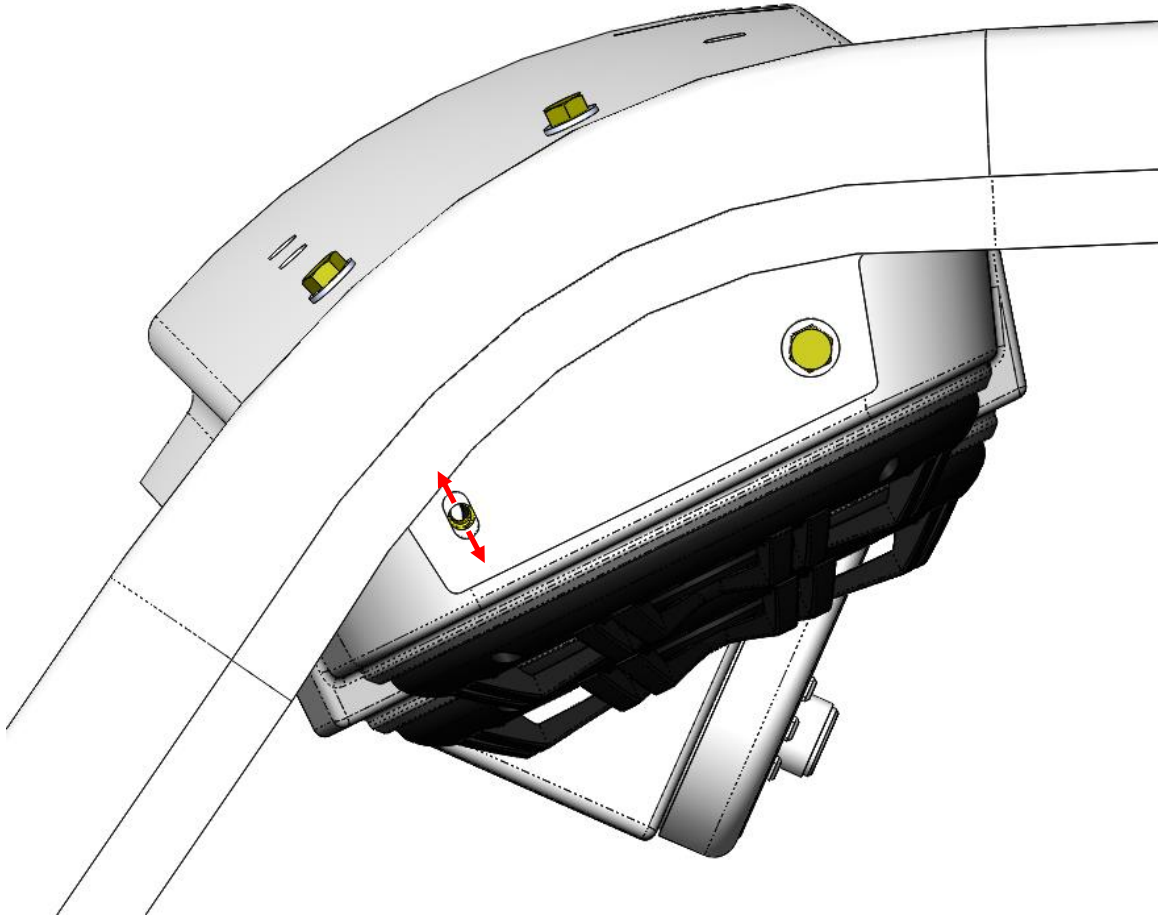

Figure 21: Up-down positioning of the Audio Mini.
17. Tighten the 4 mounting bracket bolts after achieving the desired viewing position. Slots in the brackets allow up-down movement. See Figure 21.